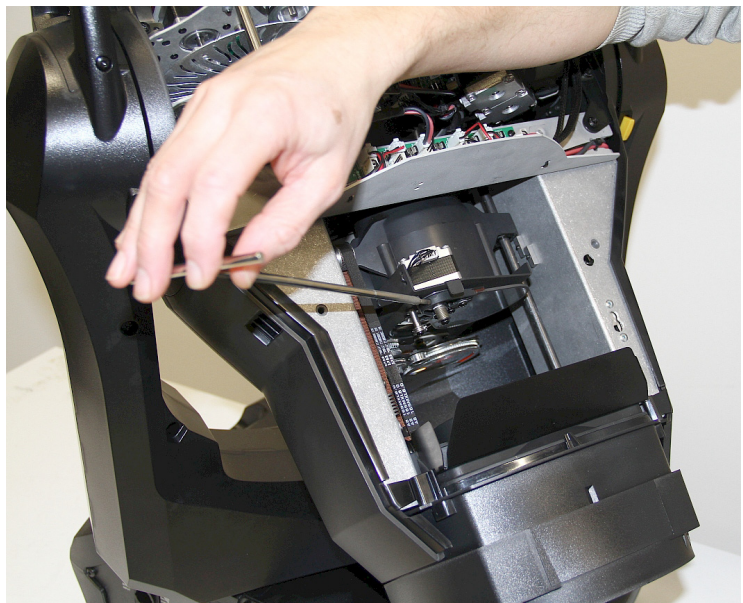

Figure 27: Unfastening the frost filter from its shaft
4. See Figure 27. Use a 2 mm Allen wrench to loosen the grub screw in the end of the filter to unfasten the filter from its shaft.